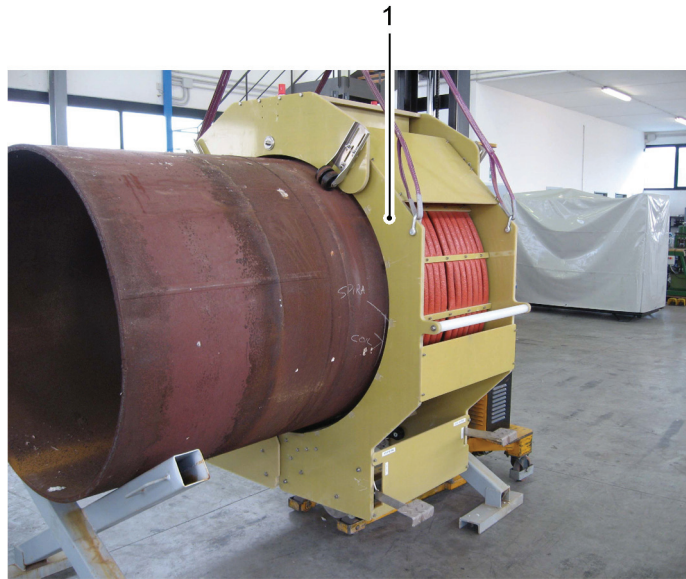

Figure 6.33 - Closing of the clamp coil for its moving down onto the pipe
- 7) Proceed by moving the clamp coil (see Figure 6.33/1) down till it'll be closed.